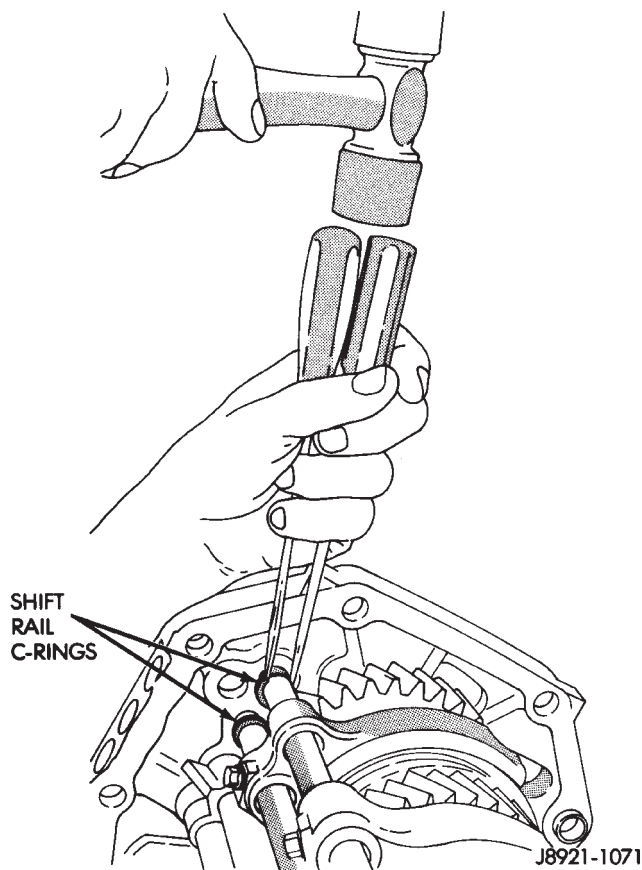

Fig. 69 Remove Shift Rail C-rings
(21) Remove the 1-2 and 3-4 shift rail c-rings using two equally sized screwdrivers (Fig. 69).